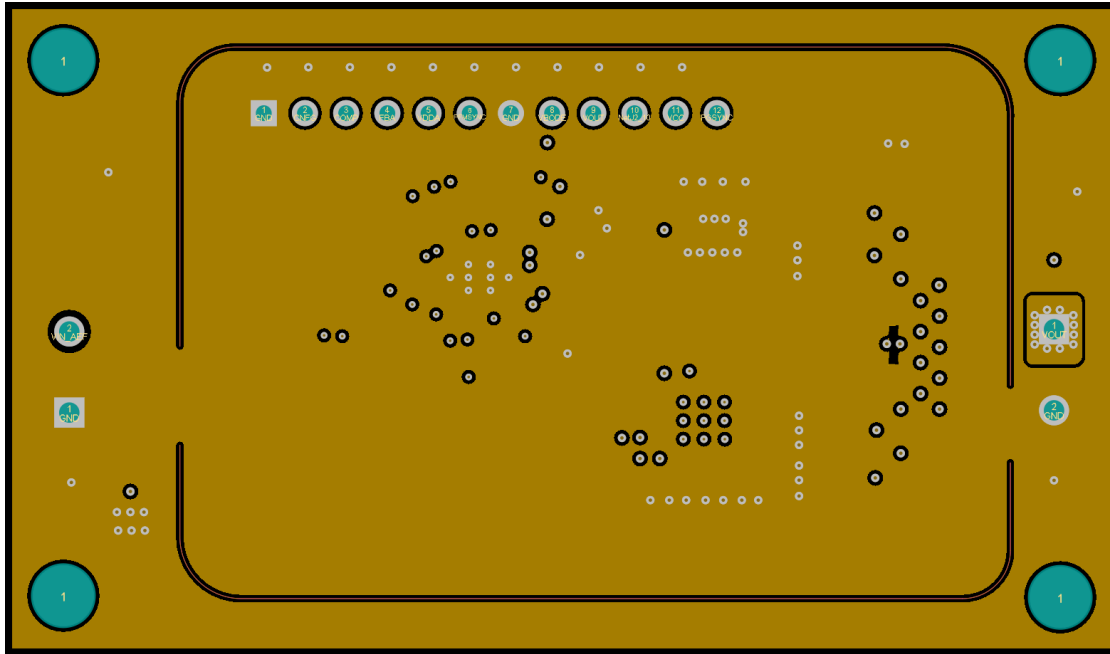

**Figure 8-47. PCB Top Layer – High Density, Single-sided Design**
Figure 8-47 shows a single-sided layout of a synchronous buck regulator with discrete power MOSFETs, Q1 and Q2, in SON 5-mm × 6-mm case size. The power stage is surrounded by a GND pad geometry to connect an EMI shield if needed. The design uses layer 2 of the PCB as a power-loop return path directly underneath the top layer to create a low-area switching power loop of approximately 2 mm2. This loop area, and hence parasitic inductance, must be as small as possible to minimize EMI as well as switch-node voltage overshoot and ringing.
- Make the ground connections to the LM5148-Q1 controller as shown in Figure 8-47. Create a power ground directly connected to all high-power components and an analog ground plane for sensitive analog components. The analog ground plane for AGND and power ground plane for PGND must be connected at a single point directly under the IC – at the die attach pad (DAP).